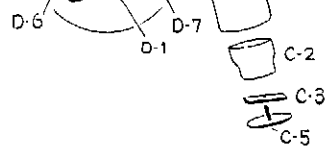

Figure 1
- After the scoop and valve assemblies have been installed it is a simple matter of fitting tubing parts to the fittings to complete the installation. This is accomplished as follows: See Figures 1 and V.